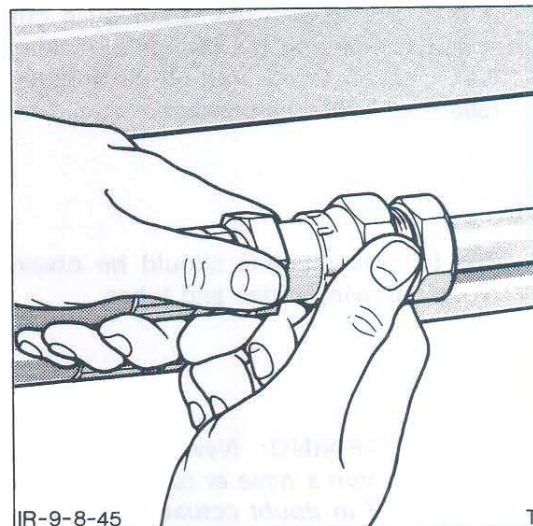

Figure 45
3. Assemble the new hose or tube assembly and tighten the fitting finger tight, while holding the tube or hose assembly to prevent it from turning, Figure 45.